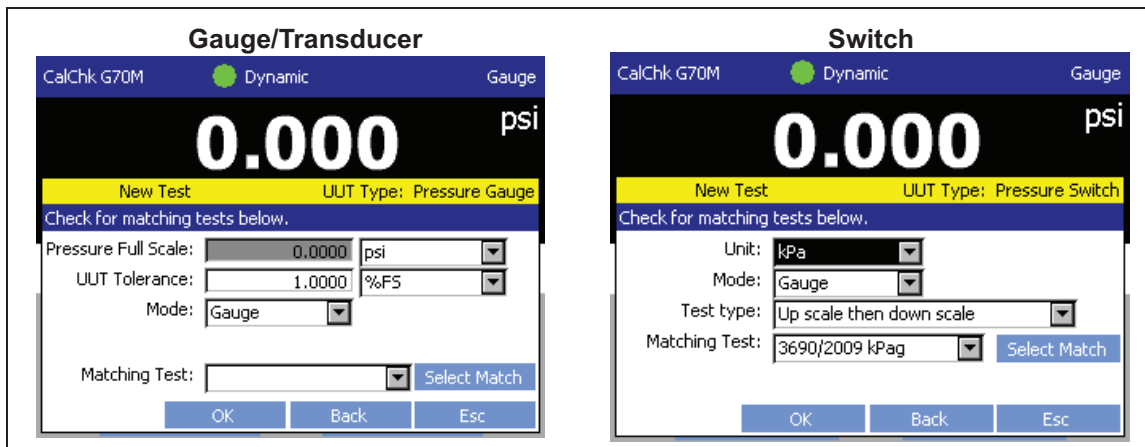

Figure 3-17. Gauge/Transducer and Switch New Test Menus
The Gauge/Transducer New Test menu looks different and contains different Test Settings than the Pressure Switch new test menu. Figure 3-17 shows the two menus.
*The Gauge/Transducer New Test menu looks different and contains different test settings than the Pressure Switch New Test menu. Figure 3-17 shows the two menus.*